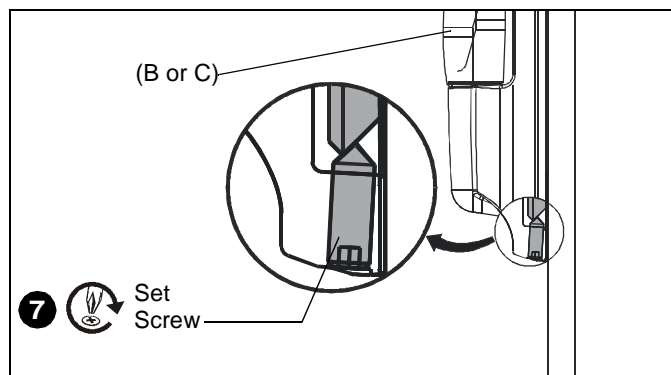

Figure 37
7. Use 5/32" hex driver (AA) to tighten set screw in bottom of wall mount. (See Figure 37)
10. Use 5/32" hex driver (AA) to tighten set screw in bottom of wall mount. (See Figure 37)